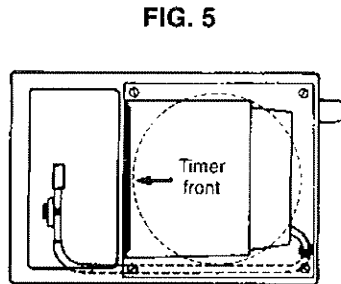

FIG. 5
2. Release the nut and clip from the brine pick-up tube (Fig. 5).